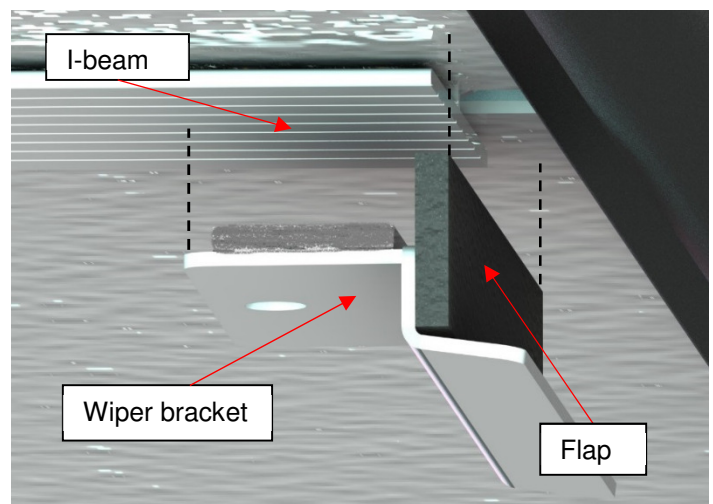

Figure 102
- 4) Stick the wiper bracket on the middle of the I-beam by holding it in place with pressure for at least 60 seconds. This ensures a proper bond to the I-beam. **Ensure to place the wiper bracket flap at the edge of the I-beam directly into the gap between the I-beam and the C-channel.** (Figure 102)